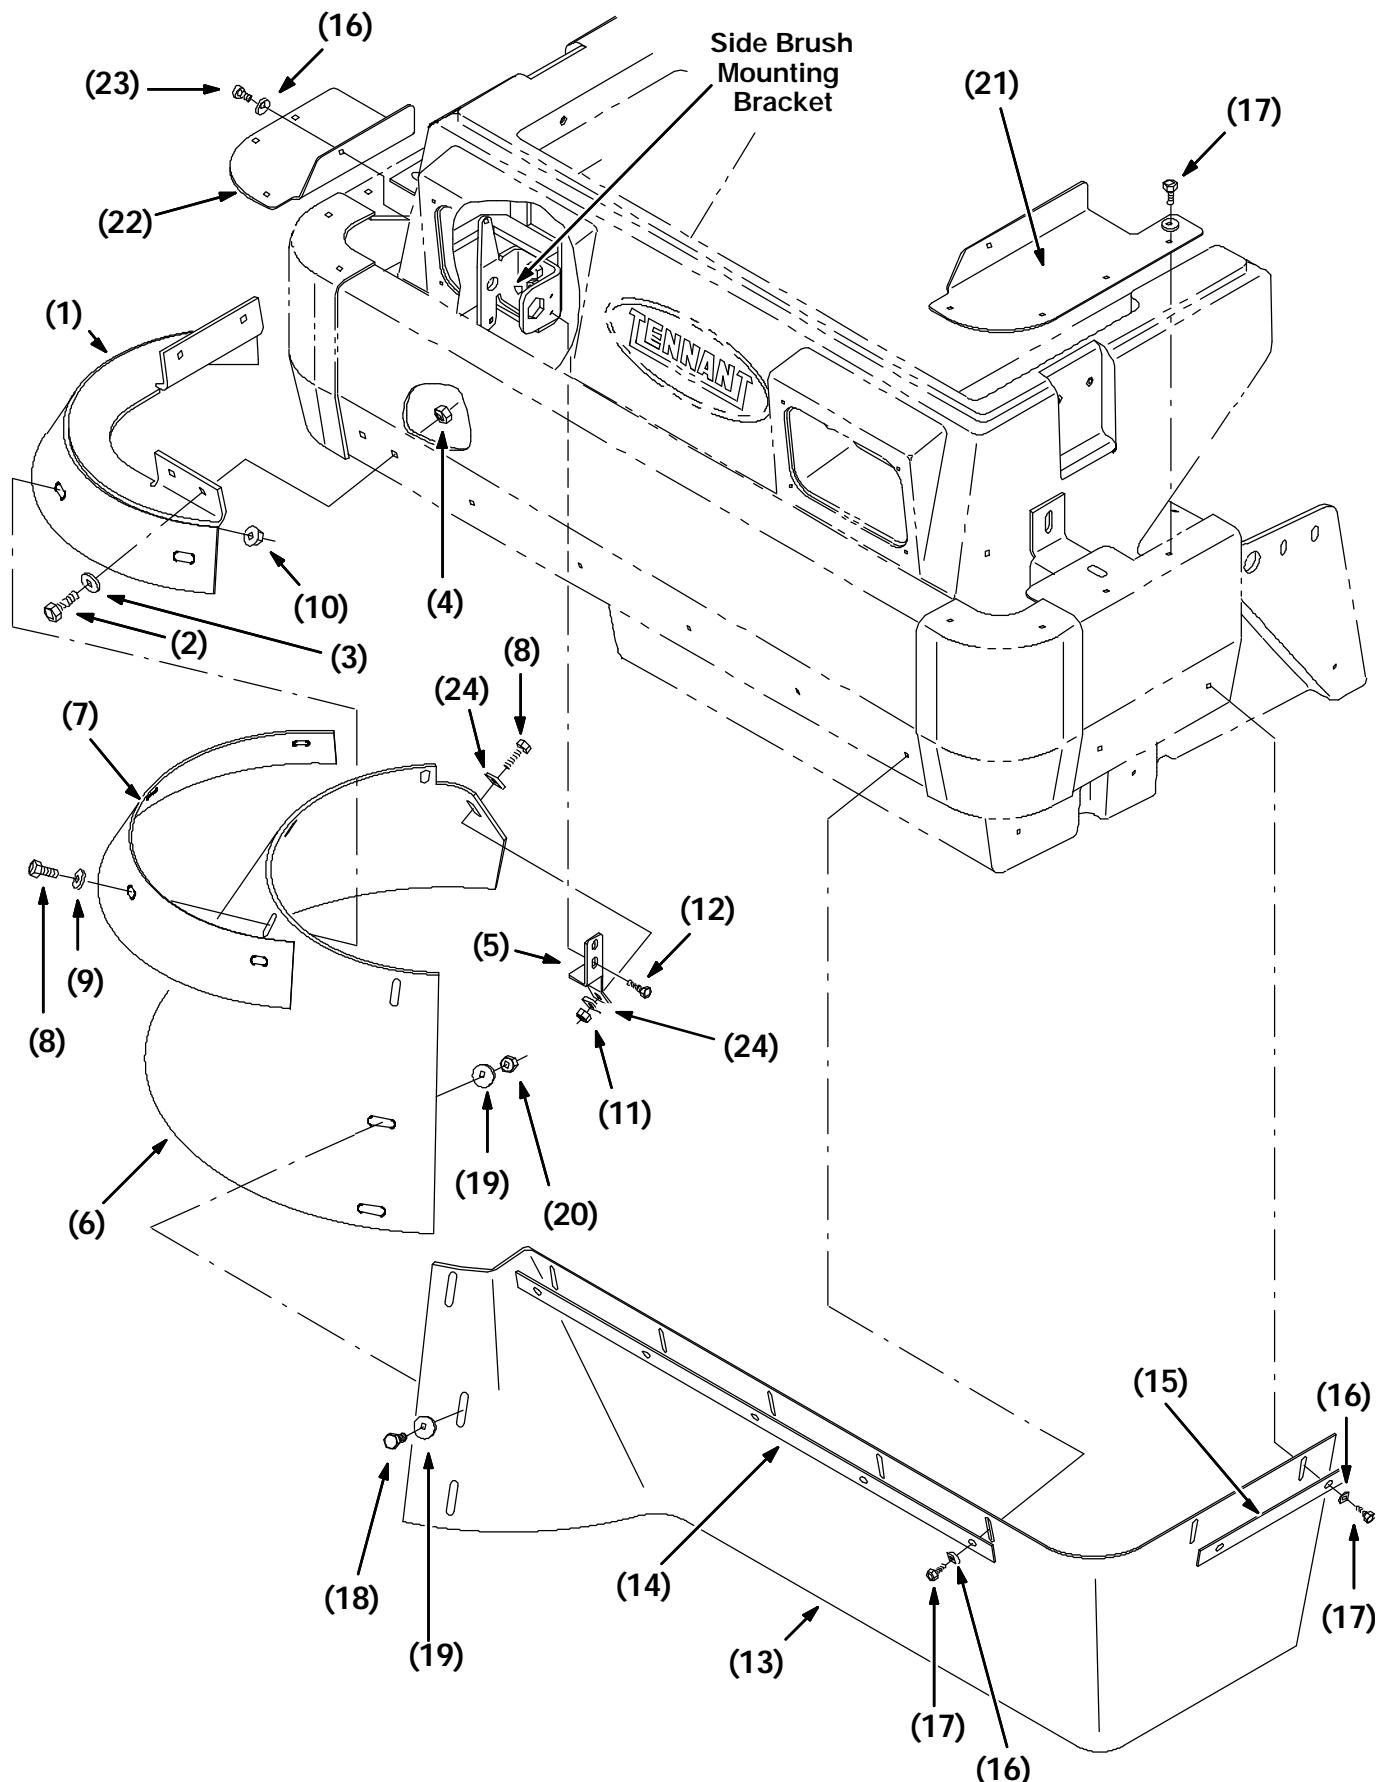

FIG. 6 - Installation of SBDC Kit Assembly
4. Install top seals (21 and 22) with screws (23) and (17) provided. (Refer to FIG. 6)
5. Install corner bracket (1) with hex screws (2), washers (3), and nuts (4) provided.
(Refer to FIG. 6)
6. Install retainer strip (7) and skirt (6) simultaneously onto corner bracket (1) by hand tightening hex screws (8), washers (9 and 24), and nuts (10) provided. (Refer to FIG. 6)
*NOTE: Install front skirt to overlap the corner skirt; join the two skirts by hand tightening screws (18), two washers (19), one on each side of overlap, and nylon nuts (20).
(Refer to FIG. 6)*
7. Install front skirt (13), front retainer strip (14), and side retainer strip (15), by hand tightening forming screws (17), and washers (16). (Refer to FIG. 6)